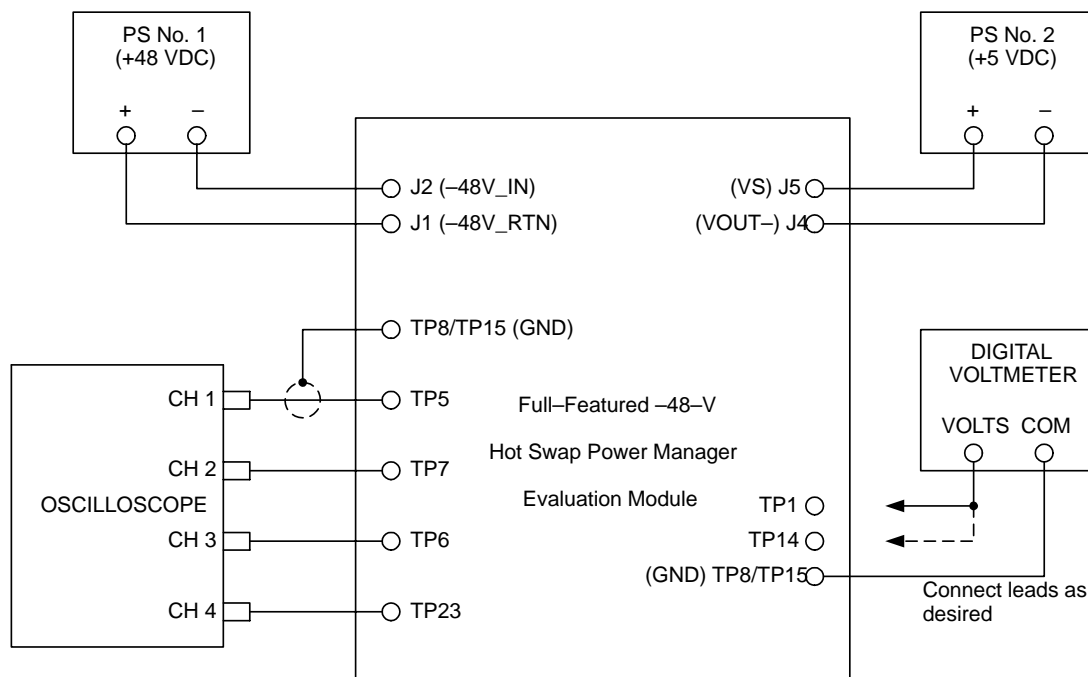

Figure 5. Full-Featured -48-V Hot Swap EVM Setup
Connect the EVM and test equipment as shown in Figure 5.
Supply connections to the EVM should be made as shown in Figure 5. The backplane, 48-V supply (power supply number 1 in Figure 5) connects to J1 and J2. The polarity of the circuit is such that the HI or (+) output of the supply connects to J1, –48V_RTN. The LO or (–) jack connects to J2, –48V_IN. PCB header J5 (VS) is used to connect an external pull-up source when using the $\overline{\text{EN1}}$ and $\overline{\text{EN2}}$ outputs of the module. This supply is referenced to the VOUT– node.
The EVM can be used to get an illustration of the relationship between current limit, inrush slew rate, load values, and the circuit's fault timing requirements. With DIP switch SW1–1 only closed, the fastest of the preset slew rates is selected, and only the hard-wired timing capacitor C6 is connected to the TPS2392 or TPS2393 controller. However, this is sufficient to allow the bulk capacitor C8 to fully charge, from 0 volts, across the full range of input supply voltages, down to –80 V. This can be observed by connecting input power as shown in Figure 5, displaying the VOUT– node on an oscilloscope, and enabling the device.